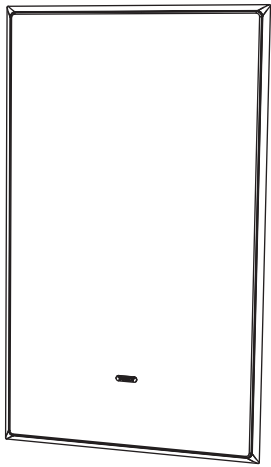

Fig. 5. Grille Installed
1. Press the grille into the frame, where it will be held in place by magnets (Fig.5).